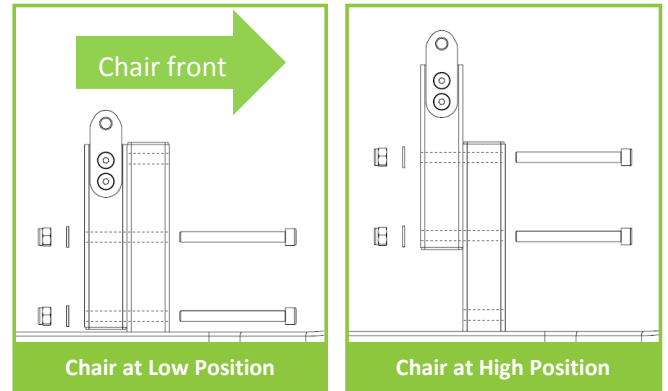
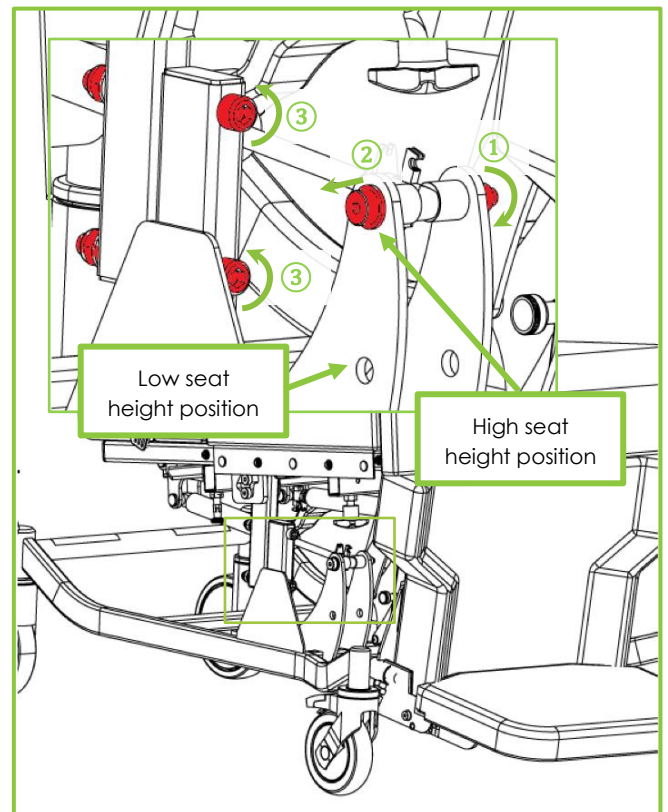

Figure 18 – Chair support fixings
Figure 19 – Actuator and chair mounting
4. Using a 13mm spanner and 5mm Allen key, undo and remove the Nylock nut and shoulder bolt (Fig 19, Item 1 and Item 2). Keep the bolt, washers, bushes, and nut for next use.
hand and right-hand side of base frame (Fig 18; Fig 19, Item 3).
6. Move the base frame to the new position. Figure 18 shows the relative positions of the chair supports and the bolt positions.
7. Refit the bolts, nuts and washers taken out in step 5 in the new position (Fig 18; Fig 19, Item 3).